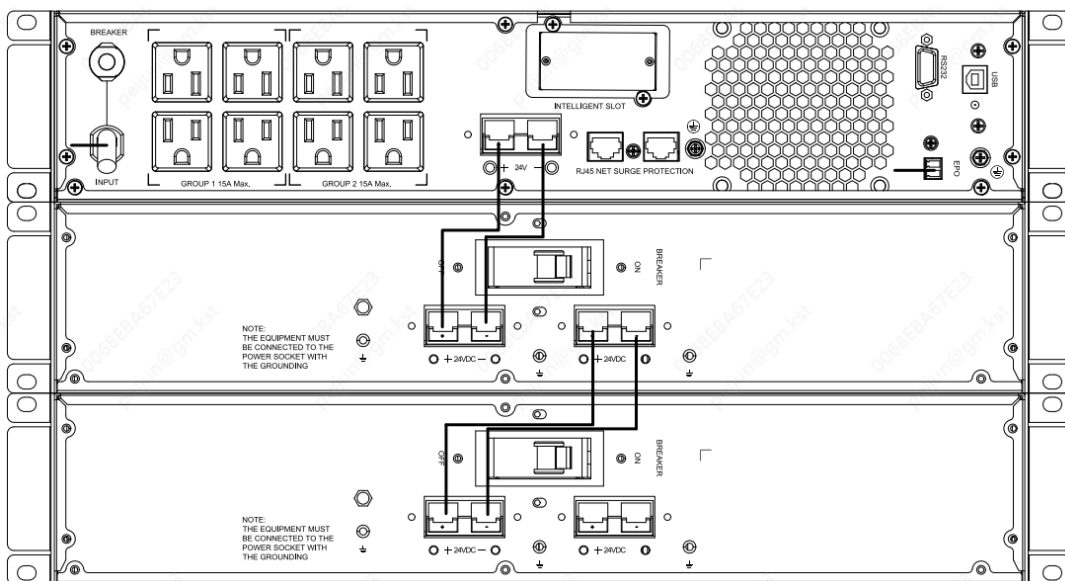

Figure 14 The installation for UPS and battery boxes
- The installation between UPS and EBPS can be referred to Figure 14